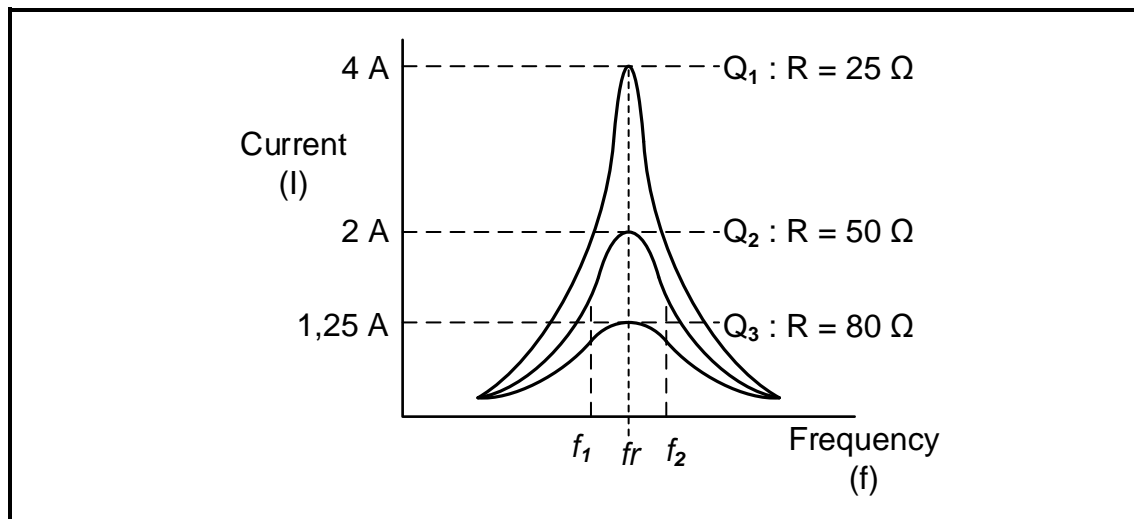

FIGURE 3.4: FREQUENCY RESPONSE
- 3.4 FIGURE 3.4 below shows the current vs frequency response curves of a series resonant circuit with a variable resistor. The inductive reactance of the circuit is $2\,000\ \Omega$ at resonance and each response curve is for a different resistance value.